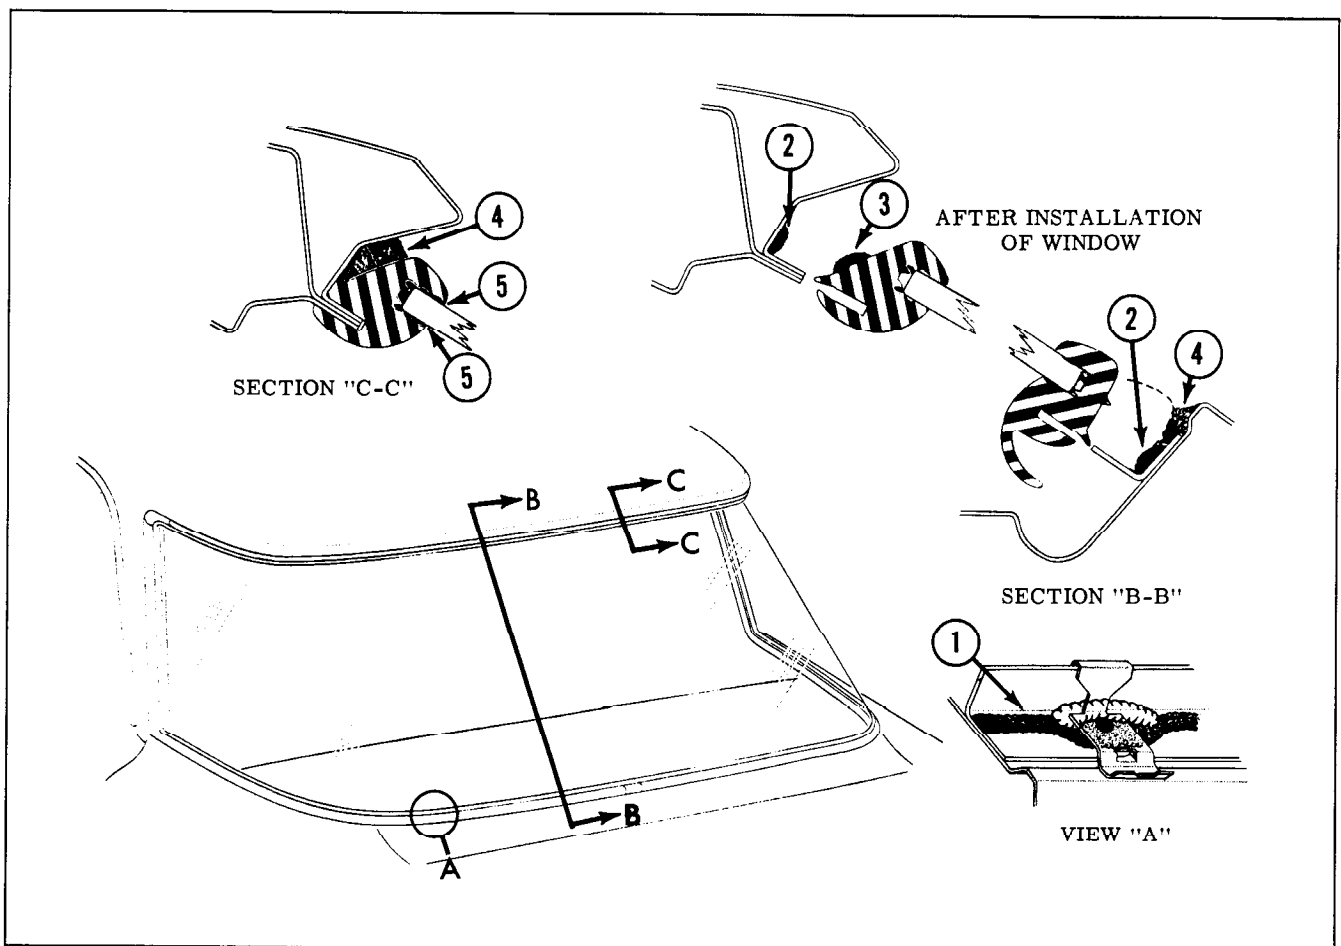

Fig. 17-86 Back Window Sealing (3839)
2. Check installation of reveal molding clips at pinchweld and retaining flanges and replace clips, where necessary. If replacing clips, apply medium-bodied sealer to opening rabbet, prior to installing clips. ("1", View "A", Fig. 17-86)
3. Apply a continuous ribbon (approximately 1/4" thick) of medium-bodied sealer to wall of back window rabbet completely around opening. ("2", Section "B-B", Fig. 17-86)
5. Apply a continuous ribbon of medium-bodied sealer (approximately 1/2" wide by 1/4" thick) to base of rubber channel across top and down sides of rubber channel. ("3", Section "B-B", Fig. 17-86)
10. Using a pressure type applicator, apply sufficient medium-bodied sealer to completely fill wedge shaped opening between rubber channel and body completely around rubber channel. ("4", Section "B-B" and "C-C", Fig. 17-86)
around entire perimeter of glass ("5", Section "C-C", Fig. 17-86) Application of adhesive should be continuous with no skips.